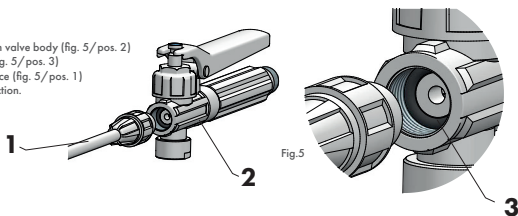

Fig. 5
Make sure that the piston valve body (fig. 5/ pos. 2) is fitted with an o-ring (fig. 5/ pos. 3) and screw it onto the lance (fig. 5/ pos. 1) to achieve a tight connection.